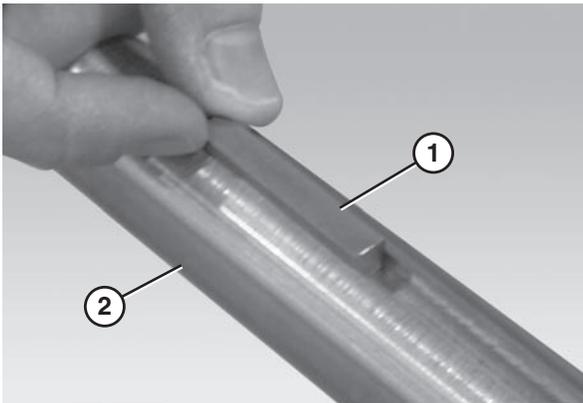

Figure 5
2. Insert the drive spindle key (Figure 5, item 1) into the drive spindle keyway (Figure 5, item 2).